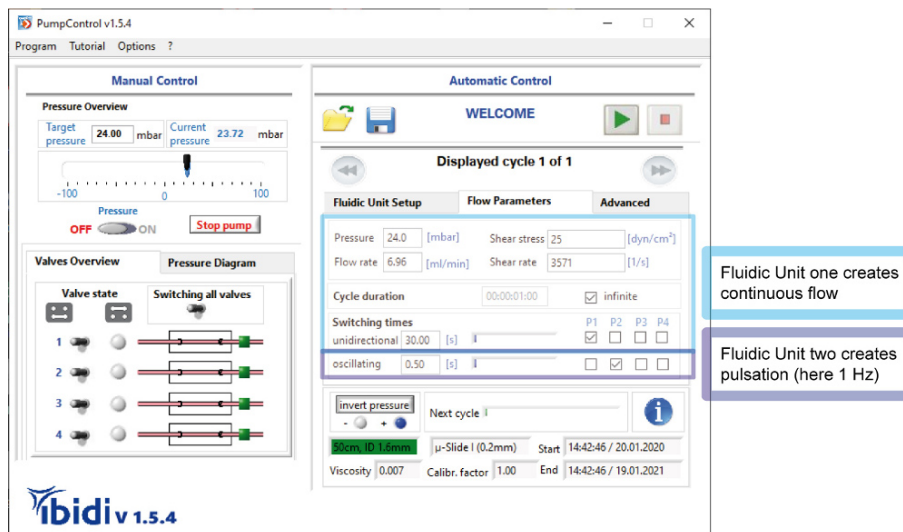

Figure 47 – PumpControl example setting for pulsatile flow.
6. Run the second Fluidic Unit in the PumpControl software as an oscillating Unit. This way you can select the switching time in the range of 0.2 s – 5 s which results in pulsation periods of 0.4 s – 10 s. This in turn corresponds to frequencies of 2.5 Hz – 0.1 Hz. Compare with Figure 47.